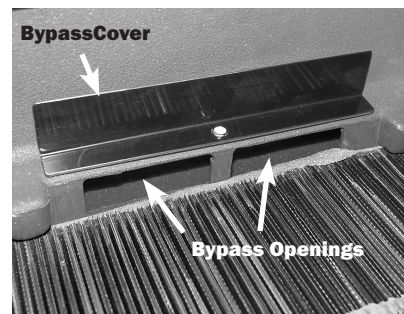

Figure 4
**Above 32°C** - When the Phoenix R200 50Hz is used in high temperature conditions above 32°C, reposition the bypass cover to open the bypass holes, figure 4. This improves dehumidifier efficiency by increasing the amount of airflow over the condenser and lowering the refrigerant pressure. Simultaneously, this slows the airflow across the evaporator allowing the air temperature to be lowered to the dew point and increases dehumidifier capacity. These higher temperatures are often found after the first 24 hours.